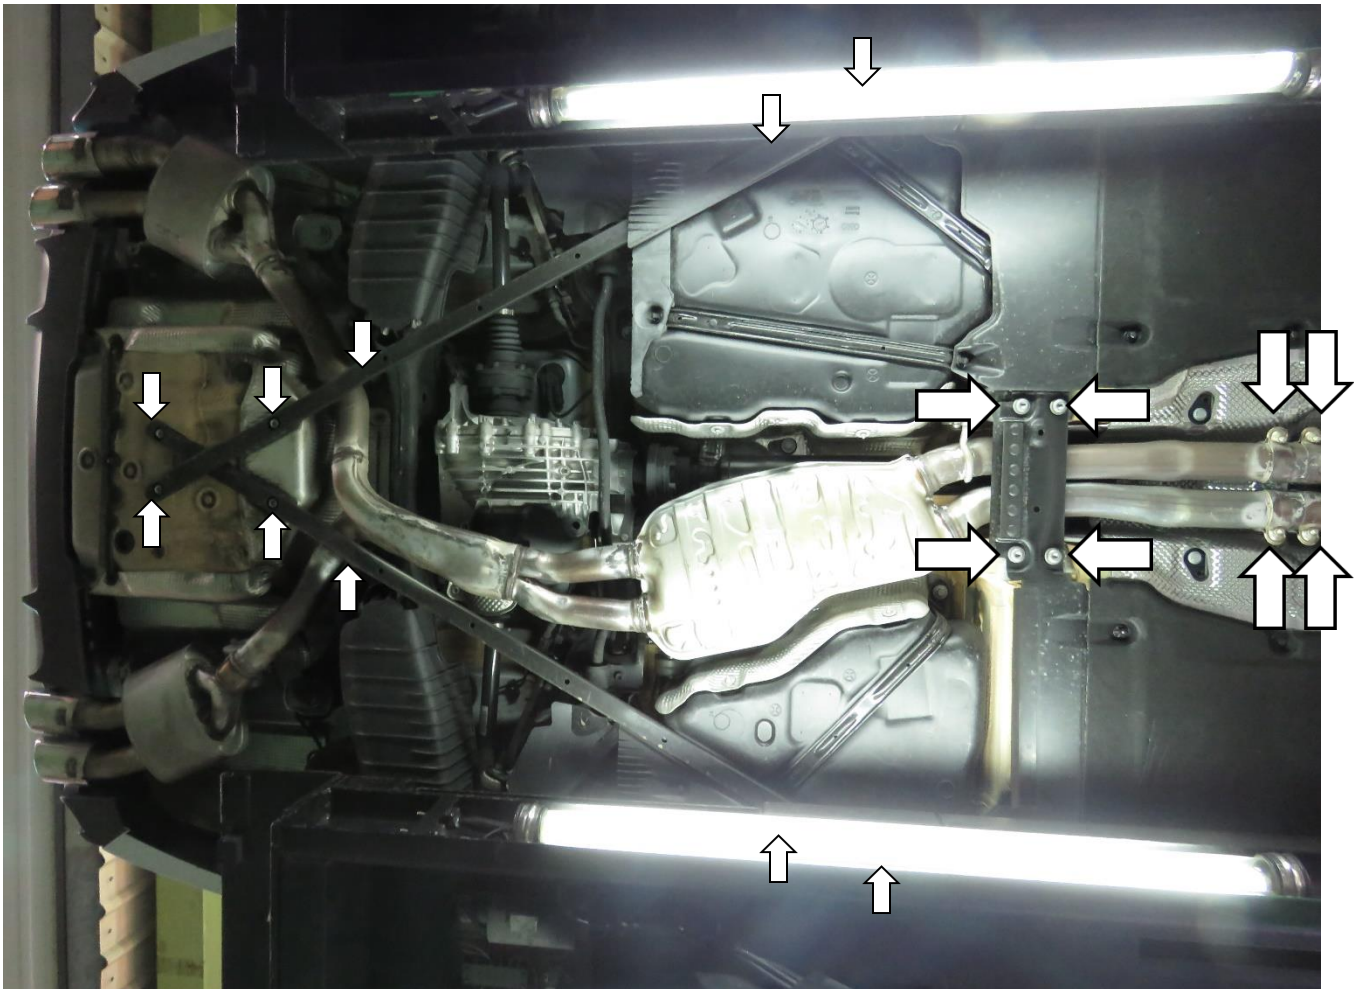

Figure 1
- 1) Remove the bottom bracket; left and right bottom shields and then loosen the middle slip sleeve screws (Figure 1).